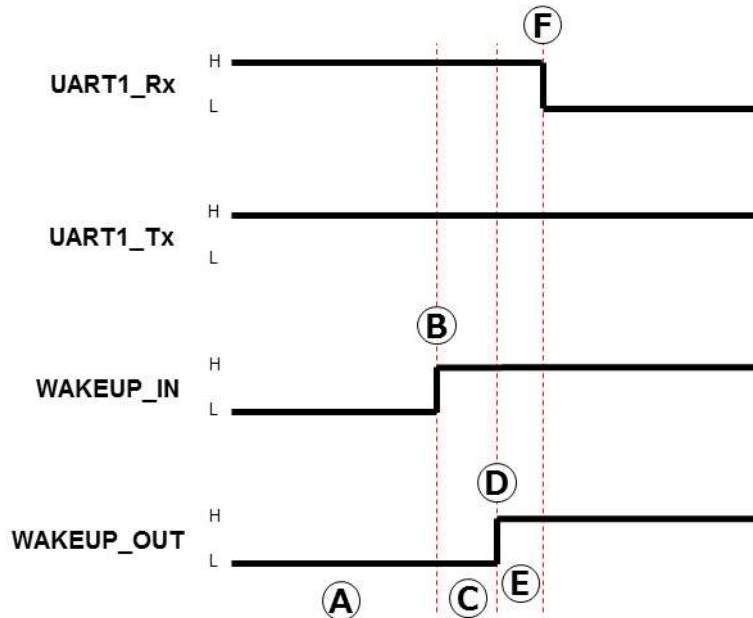

Figure 6-8 Open data interface - host to module
The timing chart is as follows. (See figure 6-8)
- Host should open data interface, and send data to module. (See figure 6-8)